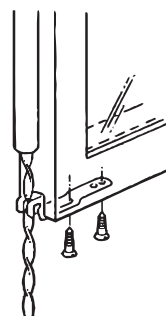

**FIG 11**
**4)** Fix travel stops provided, the shorter one at the top of the bottom sash run. (**Fig 11**)